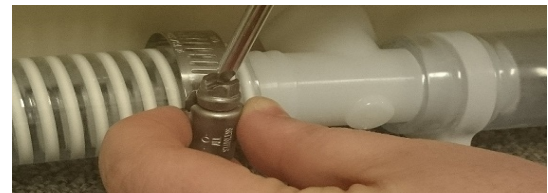

Fig 4.
4) Move the 1" SS hose clamp on to the section of the hose that is covering the end of the drain assembly. Use a flat head screwdriver to tighten the 1" SS hose clamp (Fig 4), until the drain hose is firmly affixed to the safety drain assembly.